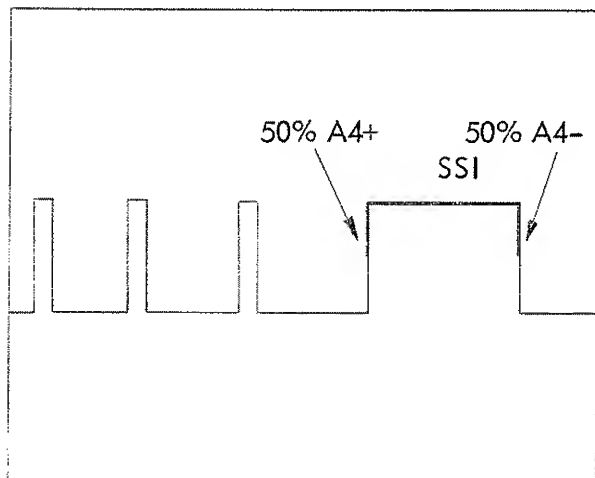

Figure 3-5 Width of Selected Pulse
Figure 3-5 illustrates the waveform on A channel. The A memory is programmed in a peak-to-peak mode to search out the peaks which define 0% and 100% levels.
- a. Assume that the waveform of figure 3-5 is on screen.